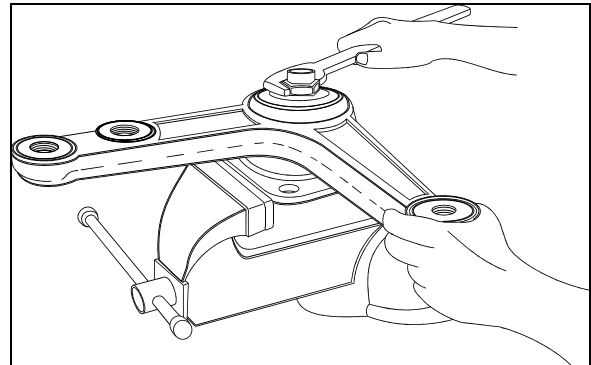

FIGURE 19: BELL CRANK
5. Firmly tighten nut (Fig. 19).